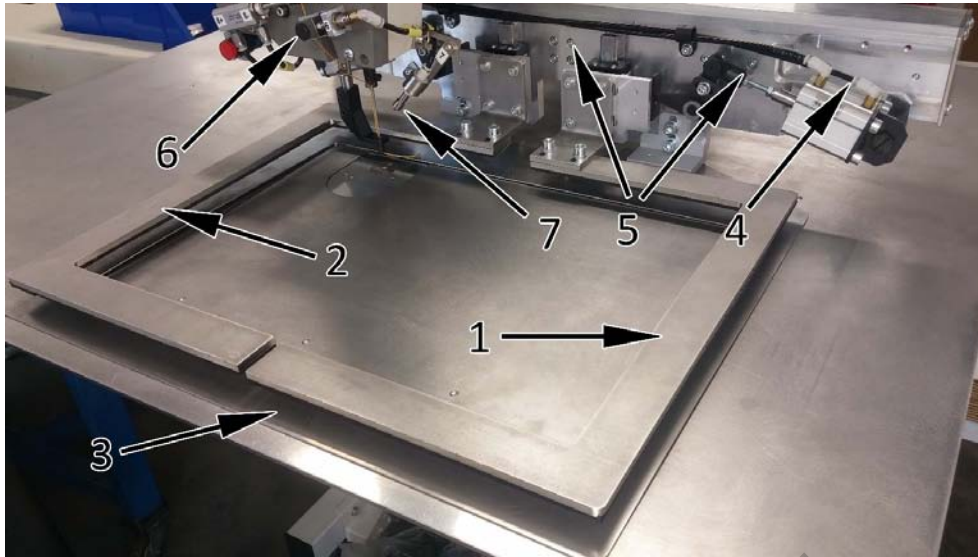
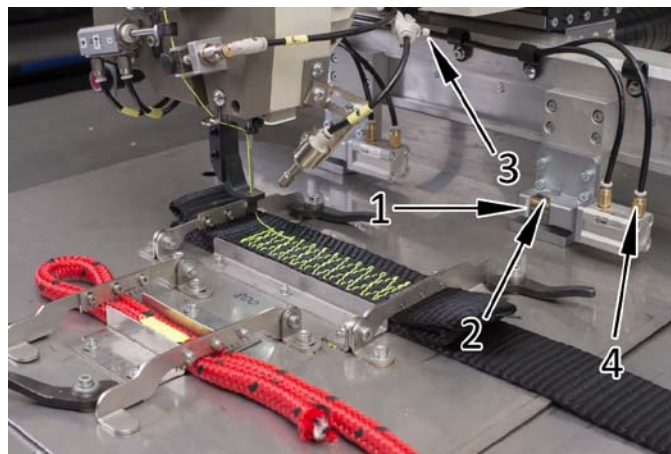
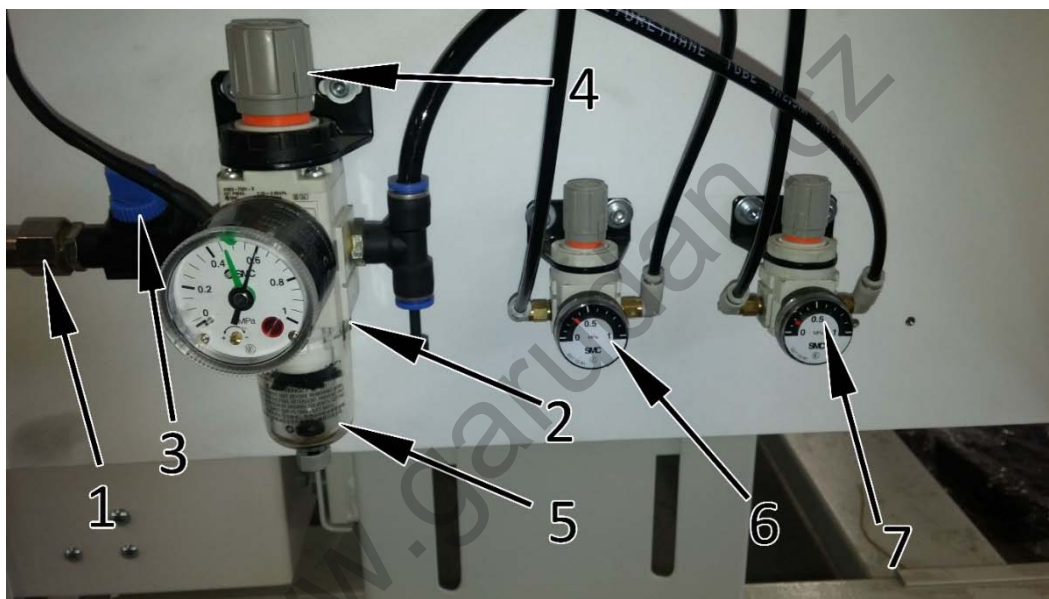

Fig. 34
Fig. 35
Fig. 38
Machine can be supplied either with the system of 2-piece upper presser frame (1, 2) and 1-piece lower feeding frame (3) – see Fig. 34, or it is supplied with customized clamp/pallet according to individual order of the customer – see Fig. 35.
- a) Speed of the left (1) and right (2) upper frame down movement can be adjusted by pressure gauges (6,7) – see Fig. 38
- b) For disassembly of the upper 2-piece frame, remove 12 screws (5). At the same time, it is necessary to disconnect pneumatic hose nipples (4) on both sides.
- c) If the machine is supplied by customized pallet/clamp, it is necessary to connect the hoses to pneumatic nipples (4) – see Fig. 35.
Fig. 34 shows position of the thread holder (6). This device is activated by *parameter 32*. Default value is 80
Fig. 34 shows position of nozzle (7) used for needle cooling. This function is activated by *parameter 31*.
Fig. 35 shows valve (3) for adjustment of the amount of air supplied to the cooling nozzle.
The feeding clamp is connected with the X-axis movement mechanism by means of lock (1), see Fig. 35. For correct function it is necessary to connect the hoses into pneumatic nipples (4). It is also necessary to lubricate the locks by spray lubricant with teflon as indicated by arrow (2) approximately once a week.
- a) Connect air hose to nipple (1) on the entry unit /2), see Fig. 38.
- b) Open air valve (3).
- c) By turning the knob (4) on the entry unit set the pressure for the value 0,55 - 0,6 MPa. Check the correct air pressure value on the manometer gauge.
- d) Make sure that the liquid in the separator (5) is regularly emptied.